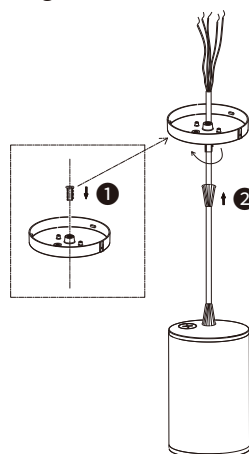

Fig 14
3. ①Attach the hollow screws to the light panel. ②Nut to top screw connection. (Fig 14)